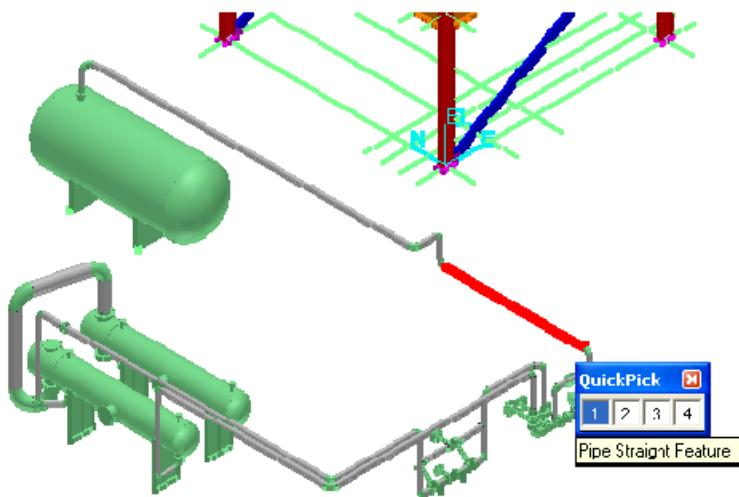

Figure 6: QuickPick Dialog Box
- The select command locate behavior is adjusted by the Locate Zone and Dwell Time properties on the General tab of the Tools>Options command. The Locate Zone defines a tolerance in screen pixel dimensions about the cursor point. Objects are located if they are within this tolerance of the cursor point. The objects under the cursor point are located in order of their view-z position. The first object found at the cursor position is highlighted when you move your cursor over it. If you pause for the duration of the "Dwell Time", then the QuickPick tool will display showing all objects that are found under the current cursor position. You can then select your desired object by highlighting the options and picking on the QuickPick tool. (Refer to Figure 6.)